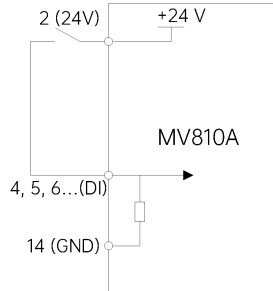

Figure 4-14 Wiring when using the internal +24 V power supply of the drive
(1) P09.11 = 0 (set the digital terminal open-circuit voltage to 0 V)
- ① Dry contact mode, as shown in Figure 4-14.